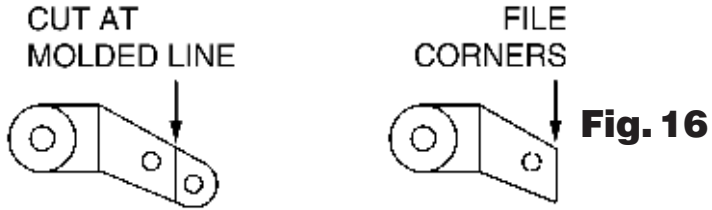

Fig. 16
**Figs. 16 & 17** Next we need the #8421 nylon steering blocks in bag #1. You will see a line molded into the steering block between the two holes. This is the top side of the steering block. The photo will show which is the right and left steering blocks. The steering blocks were designed to fit both our 1:12 and 1:10 scale cars. For the one 1:12 scale car we need to cut the steering block at the mold line as shown. After you have cut the steering blocks you will want to round the corners where you cut. You can use your file or sandpaper to accomplish this.